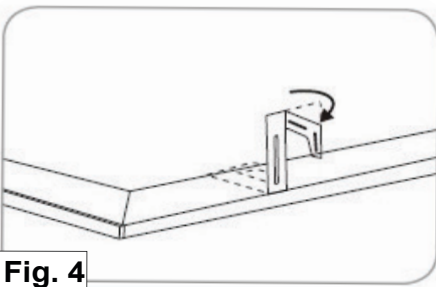

Fig. 4
4. Bend earthquake clips outward (Fig. 4).